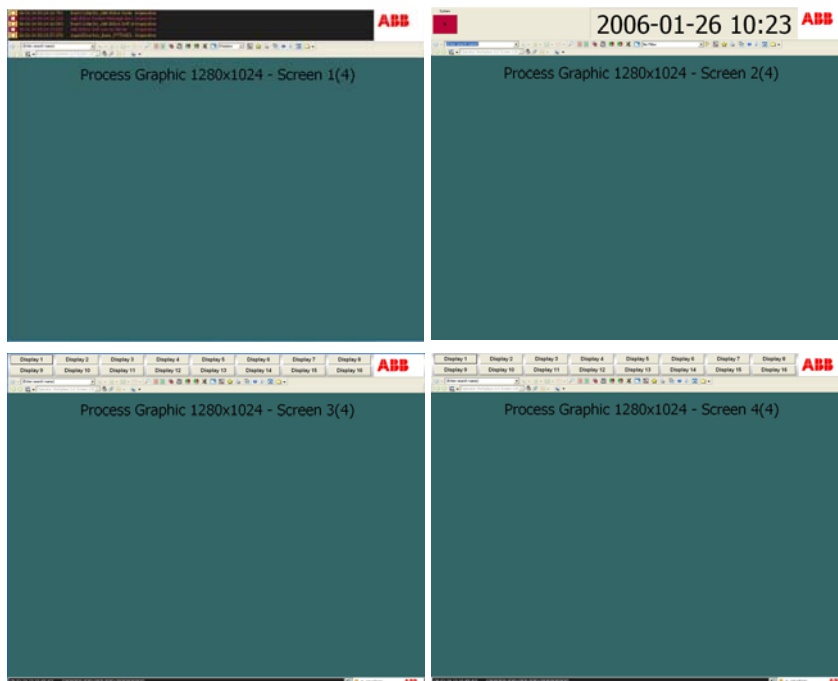

Figure 40. Tool Collections Tab for Multi-Screen Operator Workplace 1x4
10. Below the Tool Collections tab in the Application Bar aspect you select which tools to include in the Application Bar. It is not recommended to have all tools included in all four Application Bars, but the Close All Overlaps Toolbar should always be selected. See Figure 40.
5. Below the Tool Collection tab in the Application Bar aspect you select which tools to include in the Application Bar. The Close All Overlaps Toolbar should always be selected. See Figure 40.